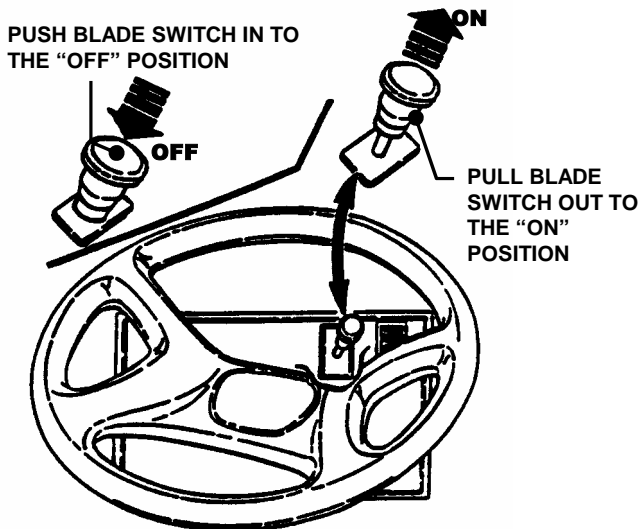

FIGURE 2.8
2. Pull blade switch OUT to engage blade. See Figure 2.8.